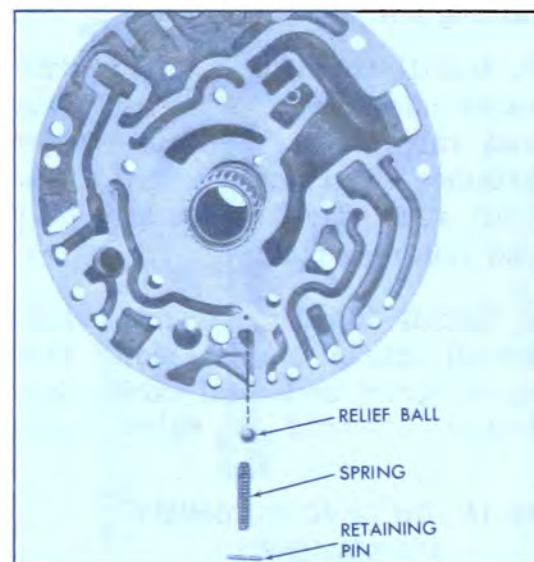

Figure 74-183
9. Depress converter pressure relief valve spring. Remove retaining pin, spring, and relief ball. See Figure 74-183.